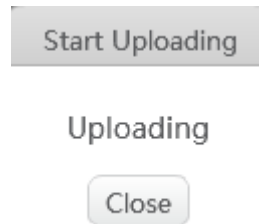
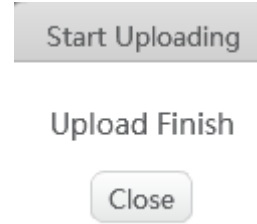

Figure 2-16
Figure 2-17
- 2) Click on the mouse block in the script area. The program code of the corresponding building block will appear on the right side of the building block. Click “Upload to Arduino” to start generating the offline code of the building block and upload it to the Hummerbot robot. The prompt window “Uploading” will appear on the screen, as shown in Figure 2-16; After the upload is complete, prompting “Upload Complete”, as shown in Figure 2-17;